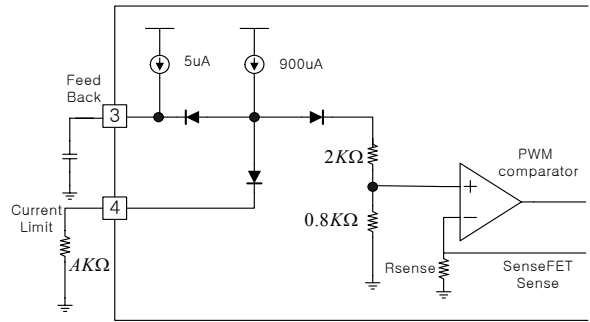

Figure 14. Peak current adjustment
8. Adjusting Current limit function: As shown in fig 14, a combined $2.8\text{k}\Omega$ internal resistance is connected into the non-inverting lead on the PWM comparator. A external resistance of A on the current limit pin forms a parallel resistance with the $2.8\text{k}\Omega$ when the internal diodes are biased by the main current source of $900\mu\text{A}$.